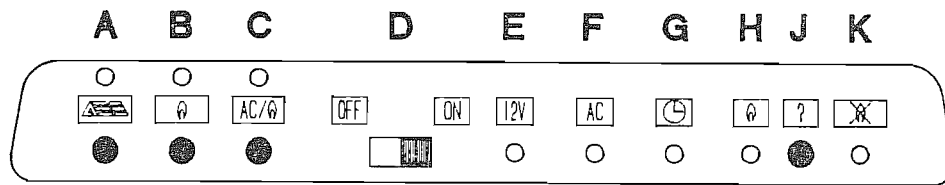

Fig. 11
- G. When the temperature of the RV rises above the thermostat set temperature, the thermostat will open and disconnect the -12 VDC to terminal #5 of the fan relay. Then the gas valve will close and the fan relay contacts will open, after a cool down period of 1 to 2 minutes for the heat in the fan relay coil to be extracted. See Fig. 11.
Operation (Fig. 11)